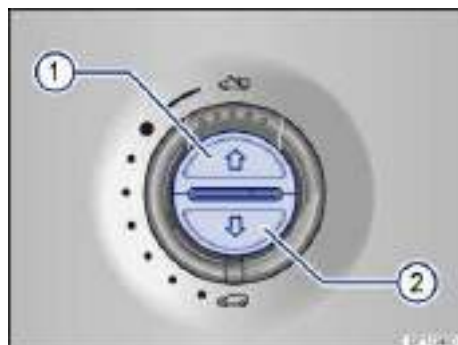

Fig. 37 In the headliner: Buttons for sunshade.
To open fully (one-touch feature):	Briefly press the ⇒ fig. 37 (1) button.
- **Sunshade:** Within 5 seconds after the pinch protection was triggered, press the ⇒ fig. 37 \(2\), ⇒ fig. 38 \(2\) switch until the sunshade is fully closed.